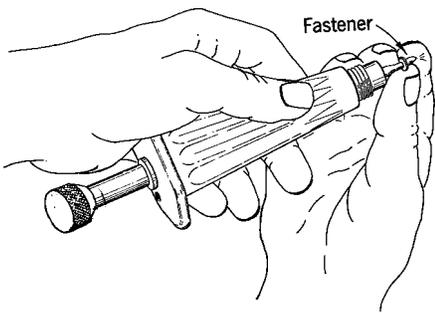

Fig. 5 — Fastener Placement
(1) Remove drill holder and extractor. Pull ram out far enough so that the washer of the masonry fastener will be properly seated in the recessed end of the tool. See Fig. 5.